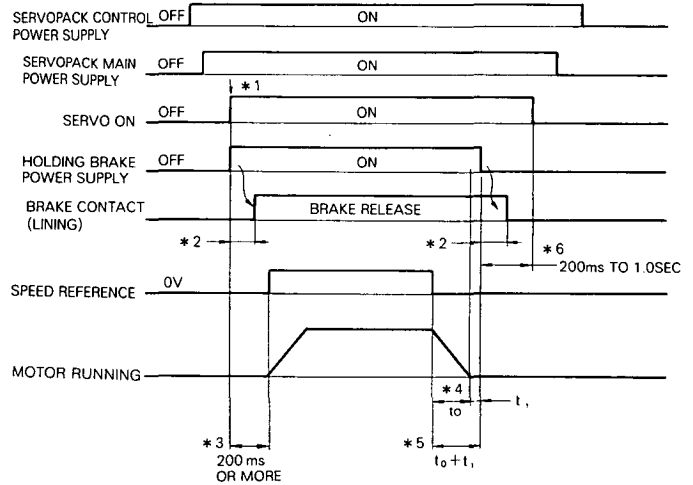

Fig. 6.20 Brake Timing
(1) This brake locks st non-magnetization. Therefore, turn OFF the brake power supply when the motor stops. Should the brake work while the motor is running the contact causes excessive abrasion and the brake may be defective in shorter period.
(2) The brake has delay time. For operation timing of ON/OFF, see Fig. 6.20.